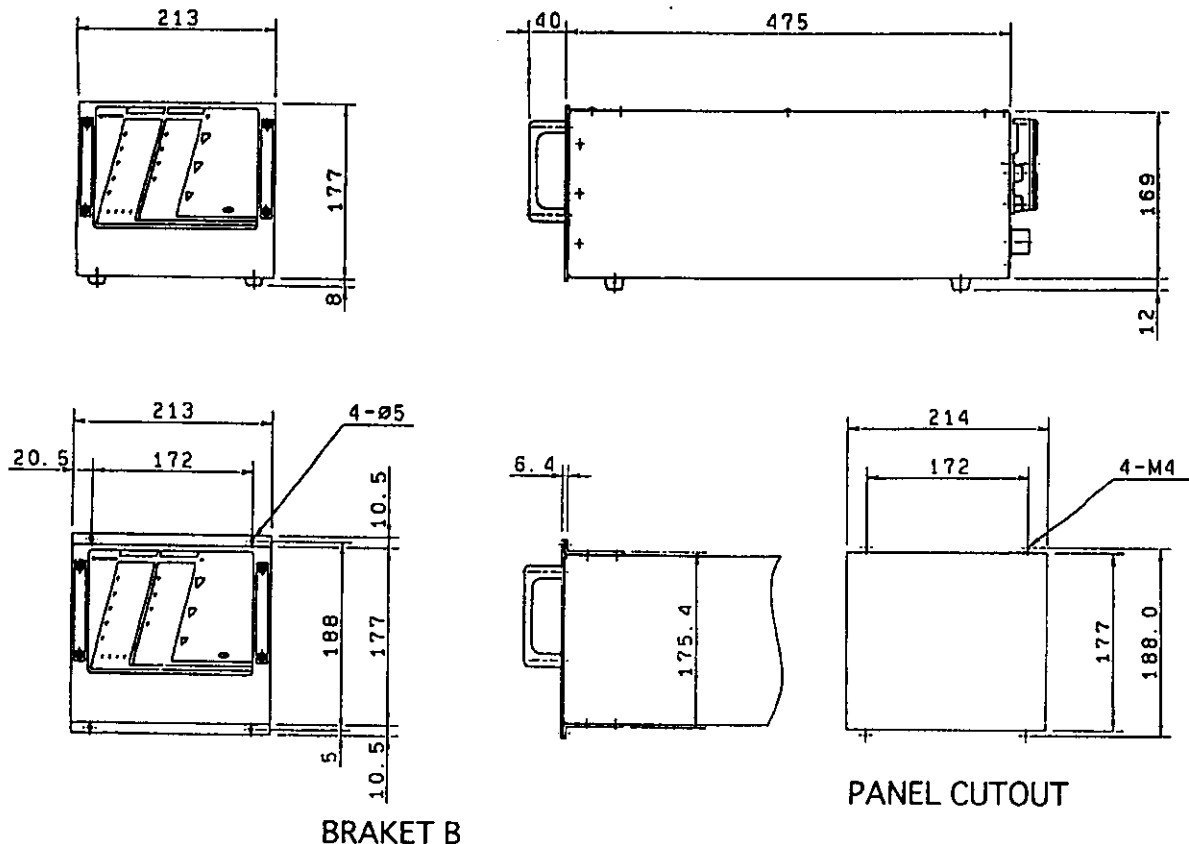

Fig. 2-5 Outside Dimensions of Power Unit EI-1003M
Cooling water pipeline(14) is connected to the pump for cooling. On the other hand, the air-cooled turbomolecular pumps TMP-1003M and TMP-803M are equipped with air cooling fan instead of the cooling water pipeline (14). Figs 2-3 and 2-4 show the outside dimensions of the pump proper and Fig. 2-5 shows the outside dimension of the power unit.
For its outside dimension, refer to Fig. 2-5.